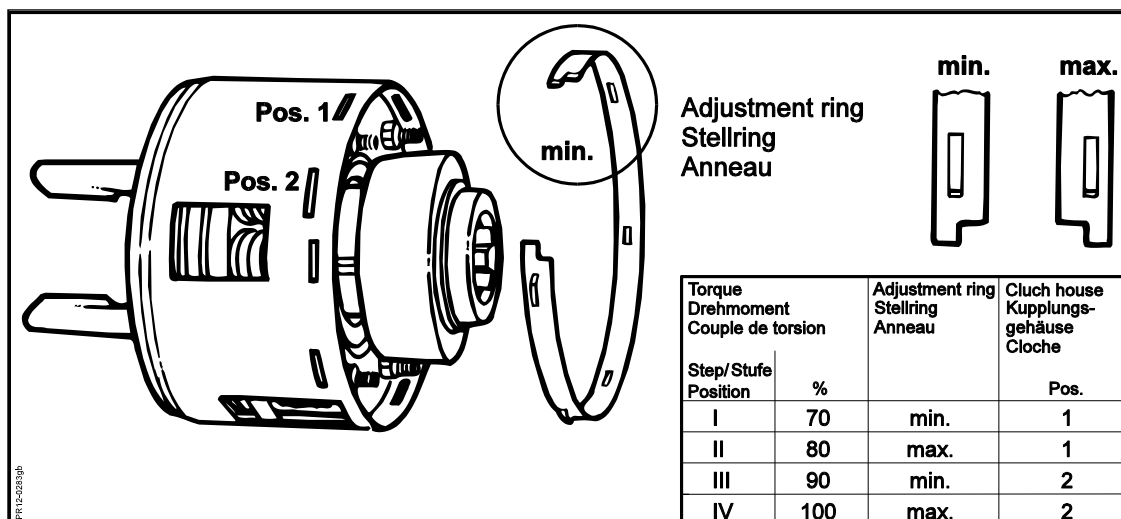

Fig. 7-4
**Fig. 7-4** The torque of the friction clutch is adjustable. However, you must not change the factory setting before contacting your dealer or the factory's service department. The friction clutch has four different torque settings. The setting can be altered by turning adjustment ring **D** and selecting between two different positions in the clutch housing.